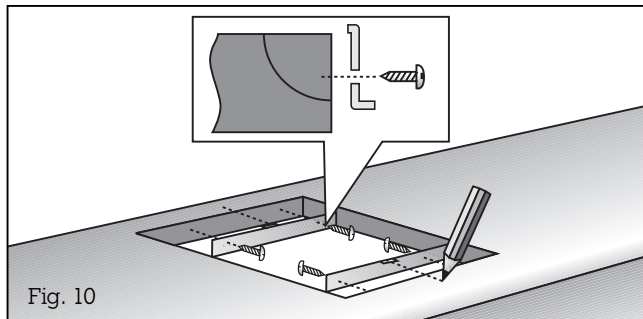

Fig. 10
- **Mark the centre of the recess exactly.** Secure the securing rails on the front and rear edges of the recess. Make sure that the lugs of the securing rails lie on the worktop and that the centre marking of the securing rails is precisely flush with the centre marking on the worktop (Fig. 10).